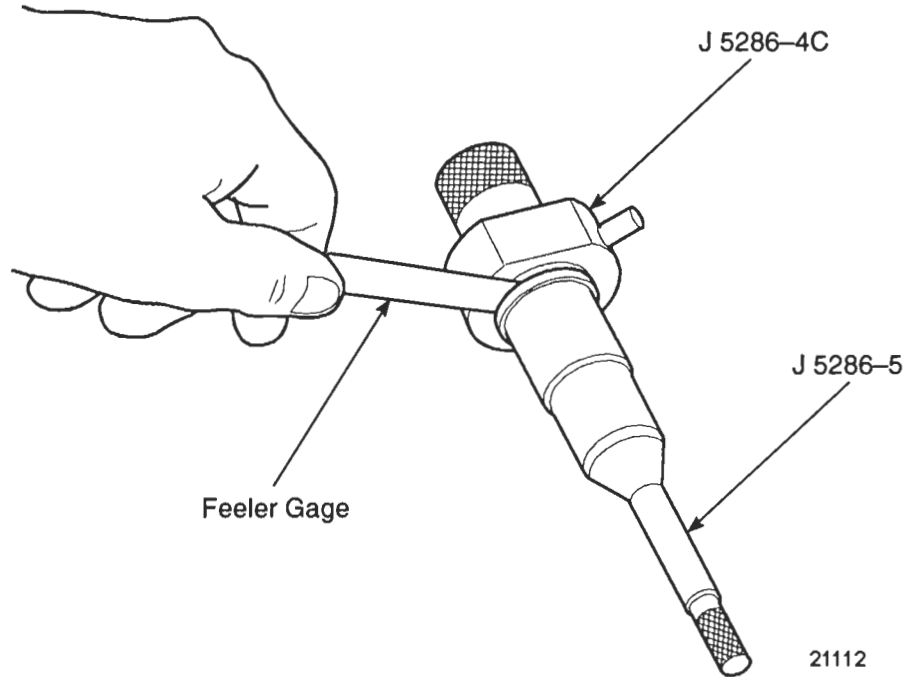

Figure 2. Measuring Tube Clearance With Feeler Gage
2. Place the installer J 5286-4C in the injector tube. Then, insert the pilot J 5286-5 through the small opening of the injector tube and thread it into the tapped end of the installer. For proper installation of any injector hole tube, the tool must contact the tube at the bottom before it touches the flange at the top. The clearance at the top, between the flange and the tool, should be .001 to .010 inches (Figure 2.).